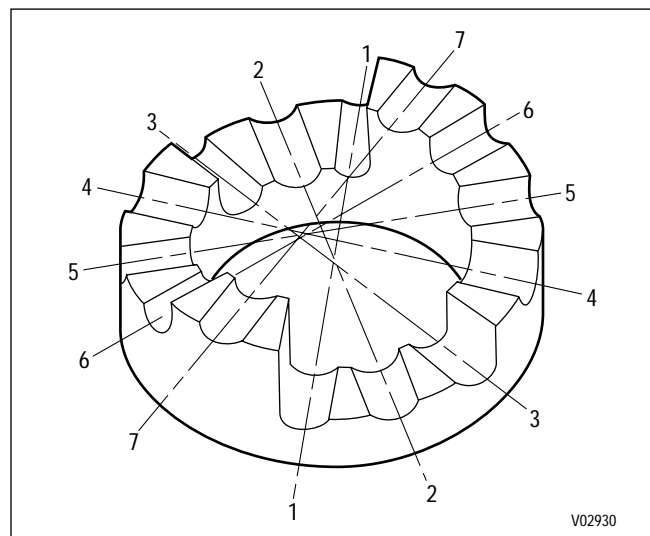

Figure 6-18. Step Numbers for Recording the Positions of Adjusting Rings
- Before removing retainer pins 9, 52, 59, 65, and 71, record the positions of adjusting rings 4 or 82, 51, 58, 64, and 70 (Figure 6-18). To retain the original calibration of the valve assembly, the adjusting rings must be reinstalled in the same positions as when removed. Adjusting rings are spring-loaded.
(1) Remove manual selector valve 53 from control valve body 11.
(2) Remove three bolts 3 from modulator valve body 10. Remove the valve body and separator plate 2.
(3) Remove priority valve 45, spring 44, and valve stop 43 from valve body 11.
(4) Compress adjusting ring 4 or 82 and remove retainer pin 9.